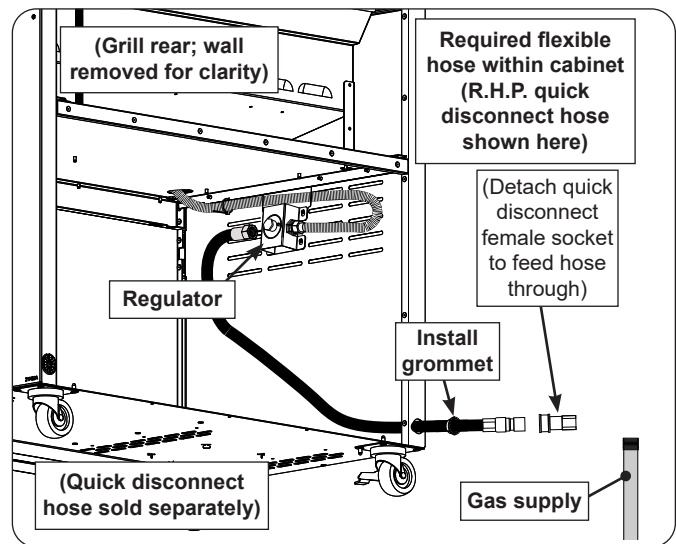
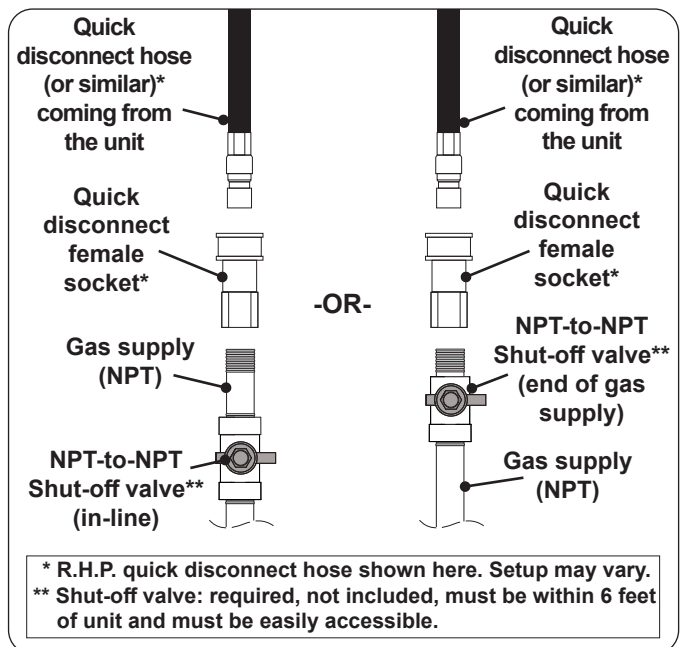

Fig. 12-1 Flexible hose assembly detail
Fig. 12-2 Connecting to a gas line
- For natural gas models, a quick disconnect hose is available for purchase and must connect to the regulator inside the cabinet (see Fig. 12-1 and Fig. 12-2). For household propane, an appropriate, C.S.A. approved, flexible hose or similar MUST be purchased to route from the gas line to the regulator inside the cabinet (see Fig. 12-1 and Fig. 12-2). The R.H.P. quick disconnect hose is recommended, and is discussed and illustrated here. See PARTS LIST and contact your dealer for ordering information. (If your setup varies from what is shown here, observe the National Fuel Gas Code and all local codes.)
2. Install a quick disconnect hose or similar (purchased separately) to the regulator inside the cabinet. (An R.H.P. quick disconnect hose is recommended - see third bullet above.) Use a pipe joint compound resistant to all gasses on all NPT pipe fittings except flare fittings. Reference Fig. 12-1 and Fig. 12-2. Then proceed to step 3.
3. Install the included open-hole grommet to the hole in the rear bottom left of the cabinet, then route the quick disconnect hose (or similar) out of the hole, and to the gas supply (see Fig. 12-2).
Connect the quick disconnect female socket to the shut-off valve OR gas supply (NPT) using a pipe joint compound resistant to all gasses (see Fig. 12-1). Tighten securely. Re-attach the hose to the disconnect female socket.